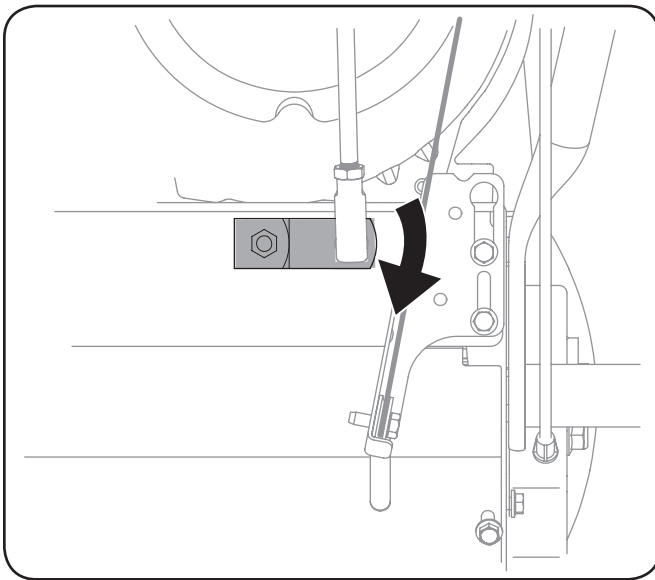

Figure 6-8
3. Pivot the shift bracket downward as far as it will go. See Figure 6-8.